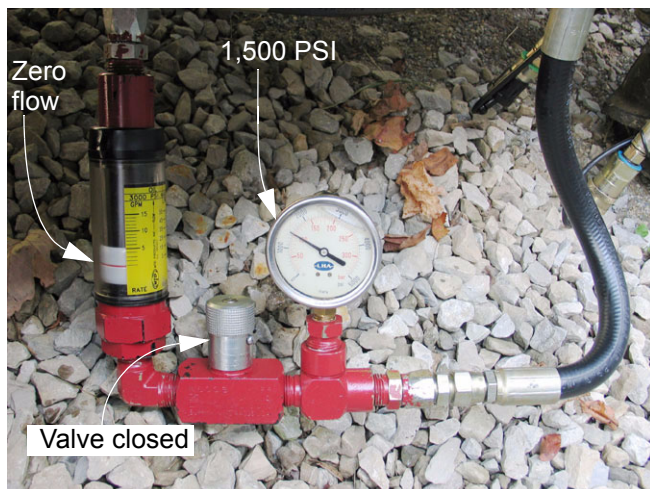

Figure 9.8
- 9.8. While holding the loader valve lever forward gains the detent (but not into Float), slowly close the flow valve on the test kit. See Figure 9.8.